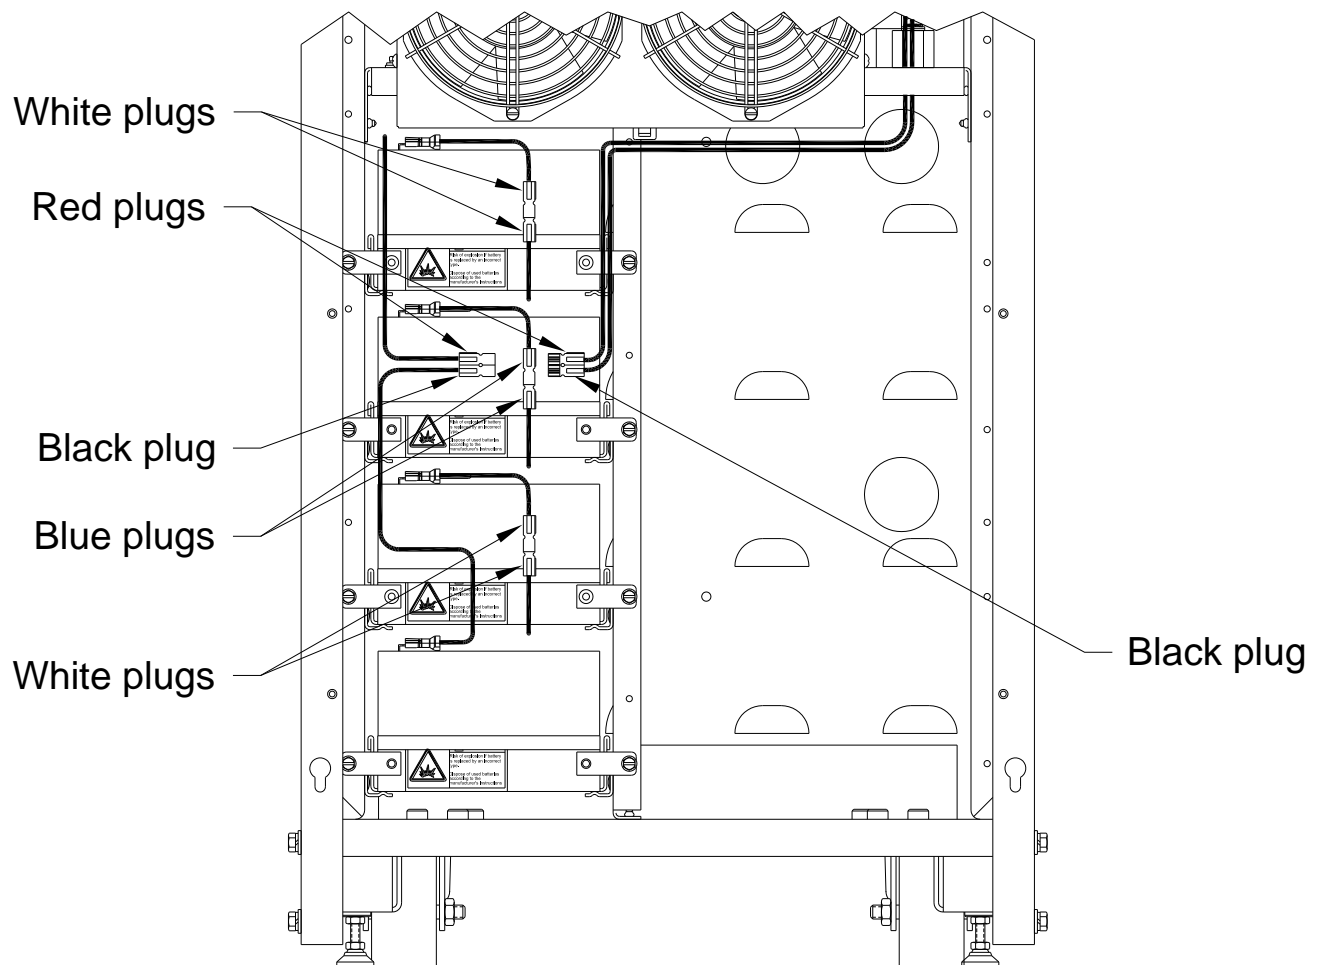

Figure 10 - Internal Battery
3. Use a voltmeter to verify that the battery string is above 420 VDC at the battery plug shown in figure 10.
4. Verify that the white, blue, black and red plugs of the battery trays are connected as shown in figure 10.
6. Reference figure 10. Connect the red and black battery plugs to the same colored plugs hanging from above.